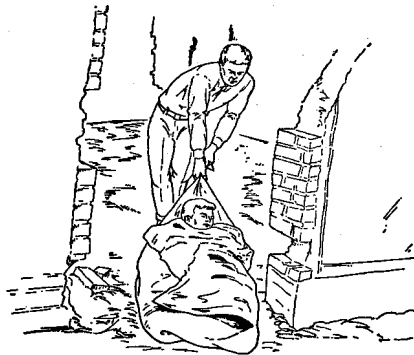

FIGURE 32. The Blanket Drag.
- c. Drag the victim by grasping the end of the blanket near the victim's head. (See Figure 32.)